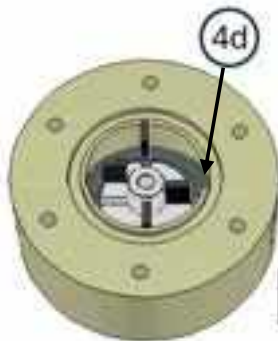
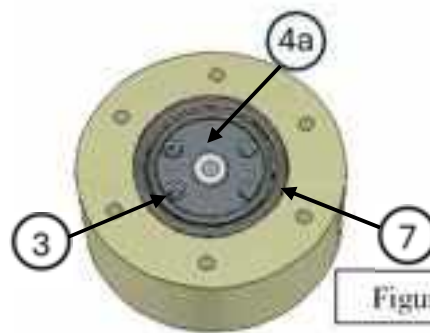

Figure 13b
Figure 13c
- 6- Position the four graphite vanes (4d) in the rotor millings (Figure 13b); then insert the graphite front disc (4a) with the O-ring seat facing outward (Figure 13c), then place the O-rings (3) and (7).